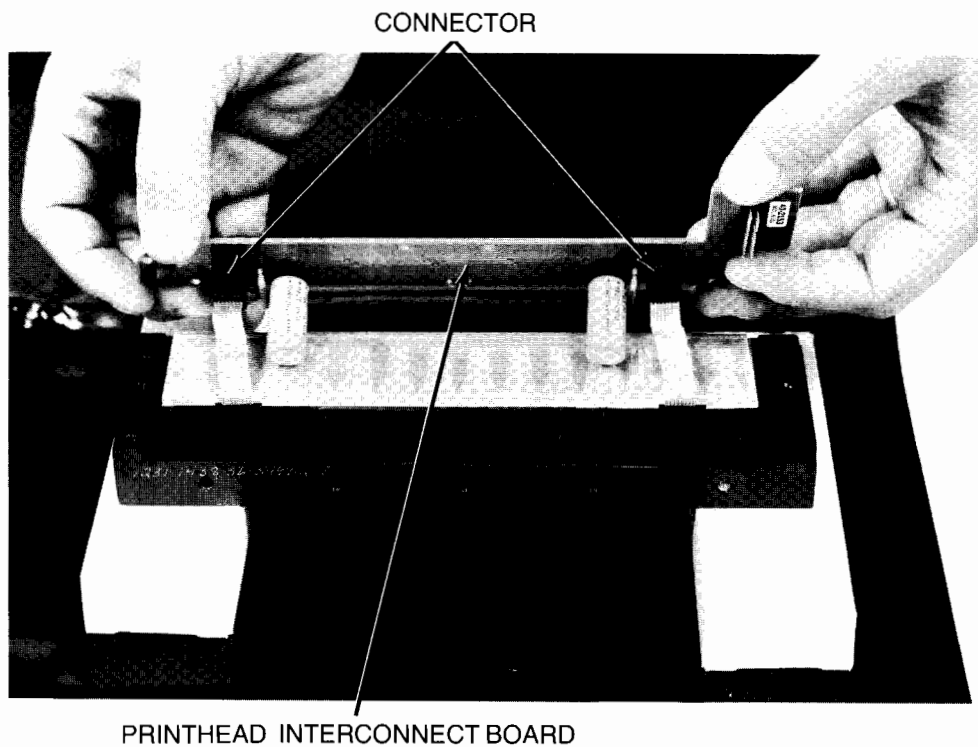

Figure 4-44. Removing Printhead Interconnect Board
5. Remove printhead interconnect board by lifting at both ends and disconnecting two connectors from the board (Figure 4-44).